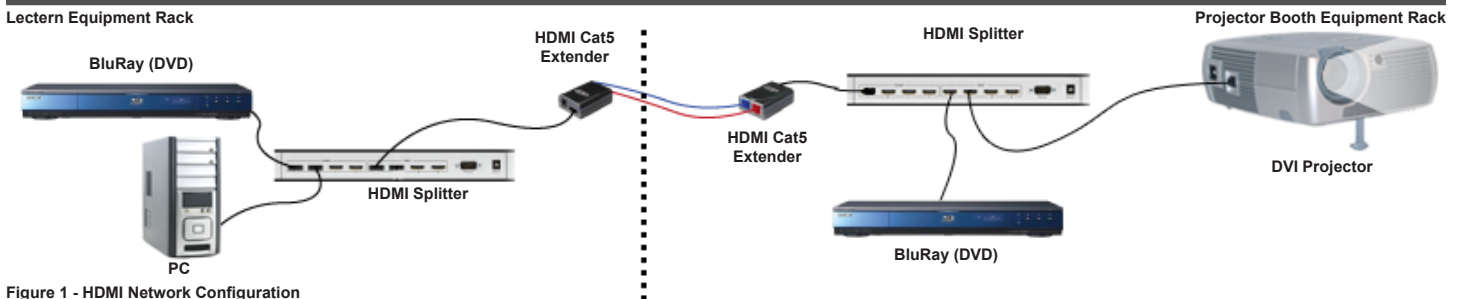

Figure 1 - HDMI Network Configuration
**Network:** The test set up is shown in figure 1 below. The HDMI AV network had two HDMI source devices in the equipment rack at the lectern. There was a BluRay DVD player and a PC. The BluRay is the source that exhibited the problem. This is important because HDCP content protection would not normally be used from the PC but it would be from the BluRay DVD player. The output from the BluRay was connected to an HDMI splitter and then to an HDMI Cat5 extender. The extender carried the signal from the lectern up to the equipment rack in the projector booth. The HDMI output from the HDMI Cat5 extender was connected an HDMI 2x4 switch and then to the DVI projector via an HDMI-to-DVI converter cable.